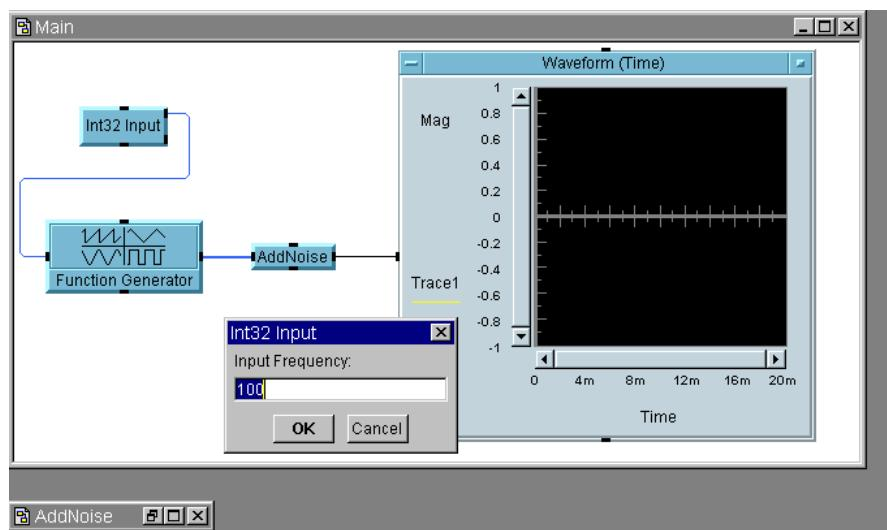

Figure 2-8. Runtime Pop-Up Input Box
5. Run the program. The input box for `Int32 Input` appears, with the instruction `Enter Frequency:`. Try running the program with different frequencies in the input box. See Figure 2-8, shown at run-time with the pop-up input box. Simply click and drag the pop-up box to control where it appears.